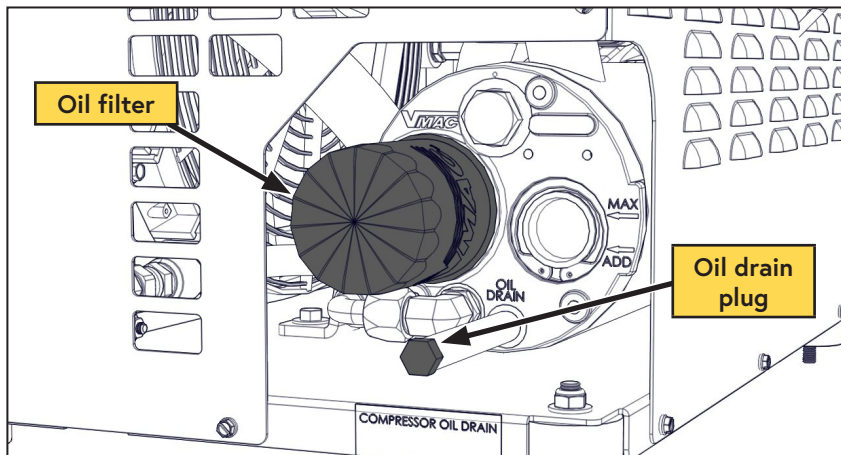

Figure 28 — Compressor oil filter
- ☐ Remove the oil drain plug and drain the oil into a container with a capacity of at least 6 L (1.6 USG) (Figure 28).
- ☐ Remove the oil filter (Figure 28).
- ☐ *To reinstall the nipple, thoroughly clean the threads and apply Loctite 242 (blue) to the end with the short threads and replace it in the AOST (Figure 28).